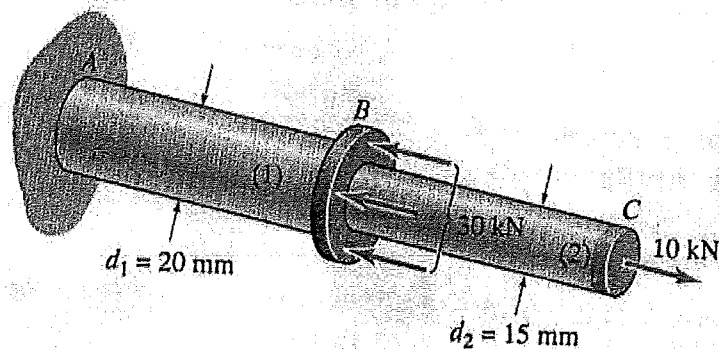

Figure 1
- [c] Two solid circular rods are welded to a plate at B to form a single rod, as shown in Figure 1. Consider 30 kN force at B to be uniformly distributed around the circumference of the collar at B and 10 kN load at C to be applied at the centroid of the end cross section. Calculate the axial stress in each portion of the rod.